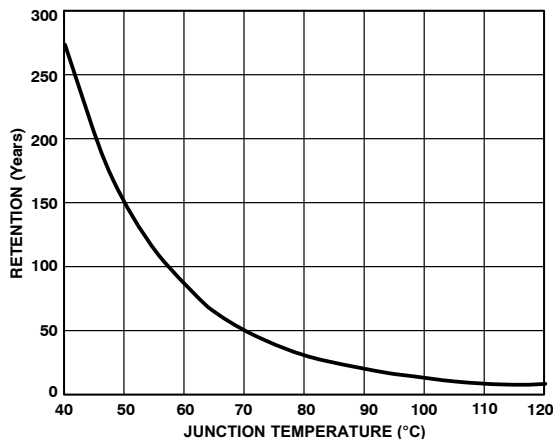

Figure 15. Typical EEPROM Memory Retention
10. Retention lifetime equivalent at junction temperature (T_J) = $55^\circ C$ as per JEDEC Std. 22 method A117. Retention lifetime based on activation energy of 0.6 V derates with junction temperature as shown in Figure 15.
Retention quantifies the ability of the memory to retain its programmed data over time. The EEPROM in the ADM1026 has been qualified in accordance with the formal JEDEC Retention Lifetime Specification (A117) at a specific junction temperature ($T_J = 55^\circ\text{C}$) to guarantee a minimum of 10 years retention time. As part of this qualification procedure, the EEPROM memory is cycled to its specified endurance limit described above before data retention is characterized. This means that the EEPROM memory is guaranteed to retain its data for its full specified retention lifetime every time the EEPROM is reprogrammed. Note that retention lifetime based on an activation energy of 0.6 V derates with T_J , as shown in Figure 15.